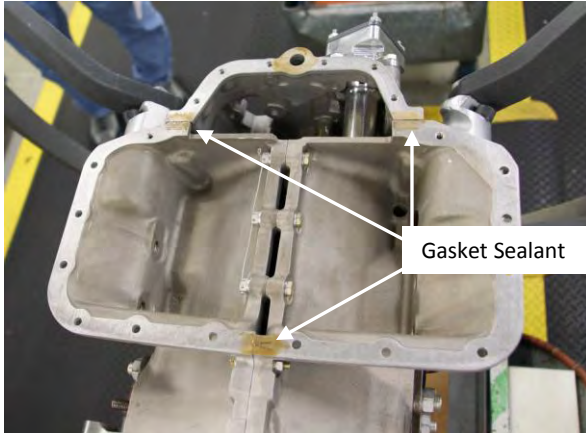

Figure 11
- D. Apply a dab of Gasket Sealant #4 (or equivalent) to three places in the split line between the accessory housing and crankcase where they mate with the oil sump (Figure 11).